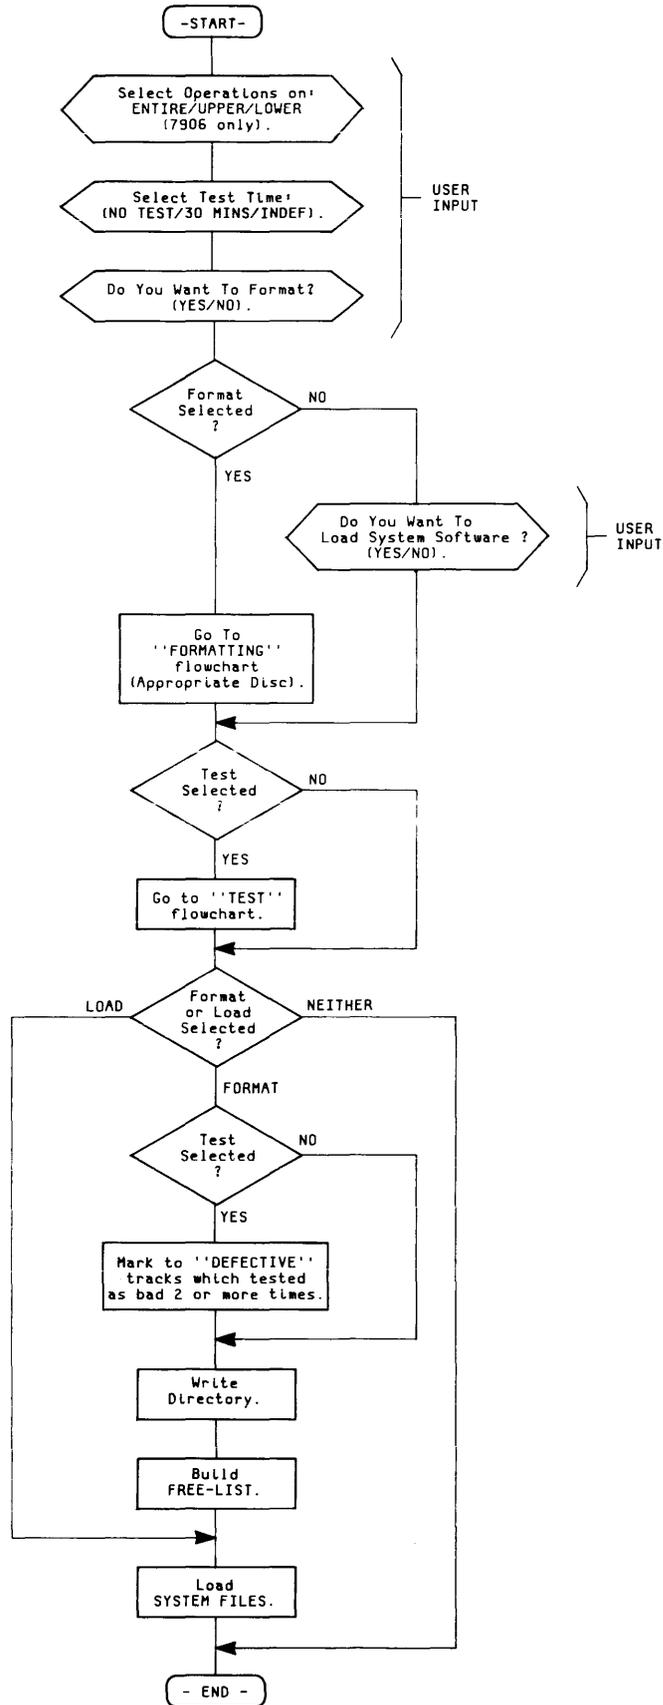

Figure 4-1. Disc Boot-Up Procedure
- D. When both the Disc Controller and drive communicate to the System Bus, but the Disc Memory is not performing correctly, perform the Disc Initialization outlined in paragraph 2-81, of the Installation section. Errors reported during initialization are explained in detail in the following paragraphs, with an explanation on each test. Figure 4-1 outlines the flow of the disc boot-up procedure for all models of disc. The formatting stage is somewhat different between the discs, and requires two separate flowcharts. The testing phase is the same for all discs. The disc initialization procedures outlined in section II cover the "fmt & tst" operation. These functions may be selected independently.